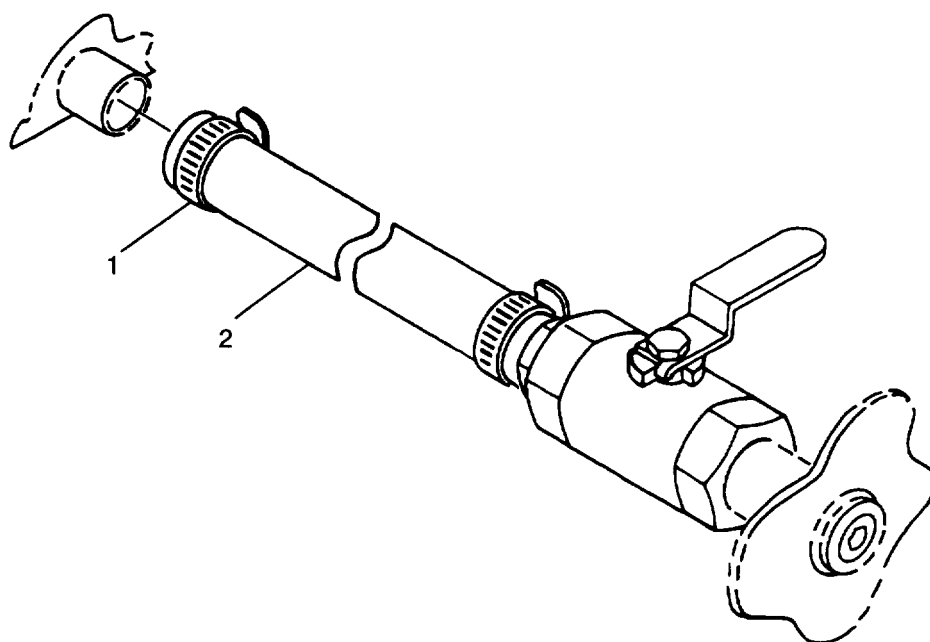
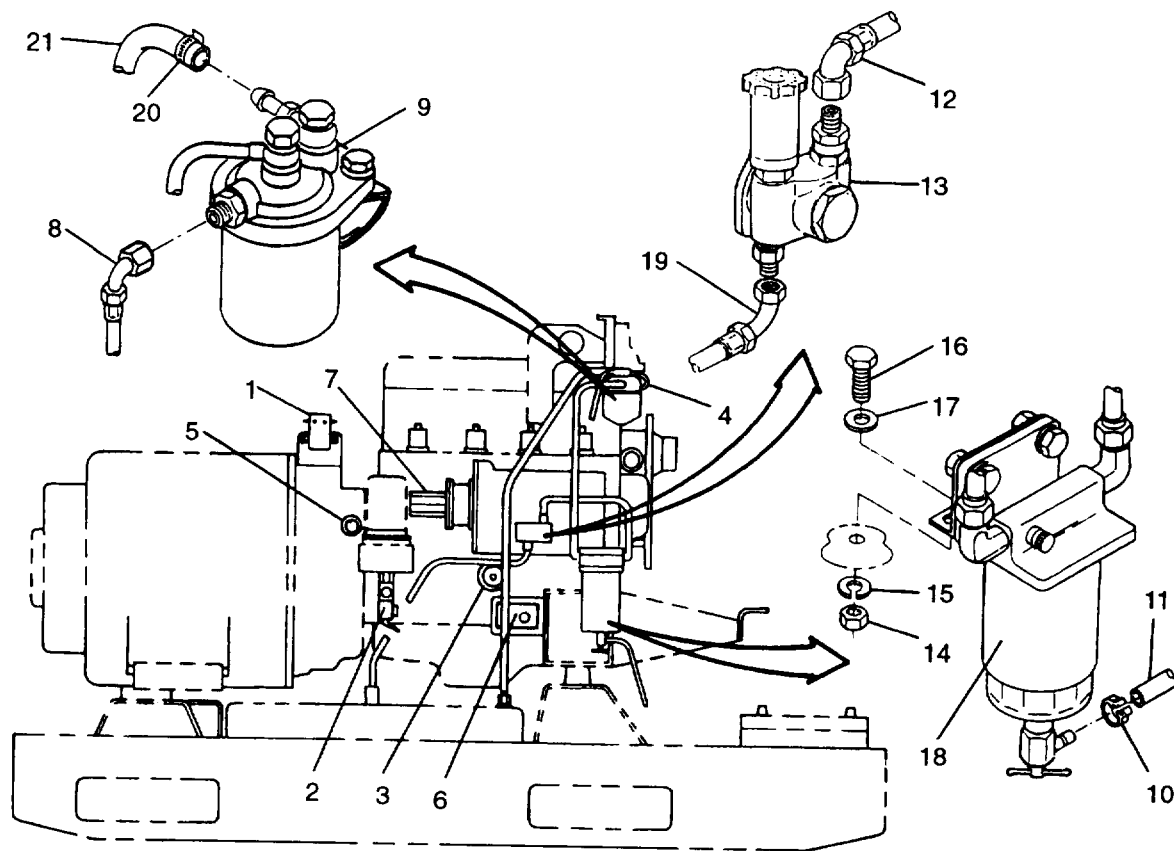
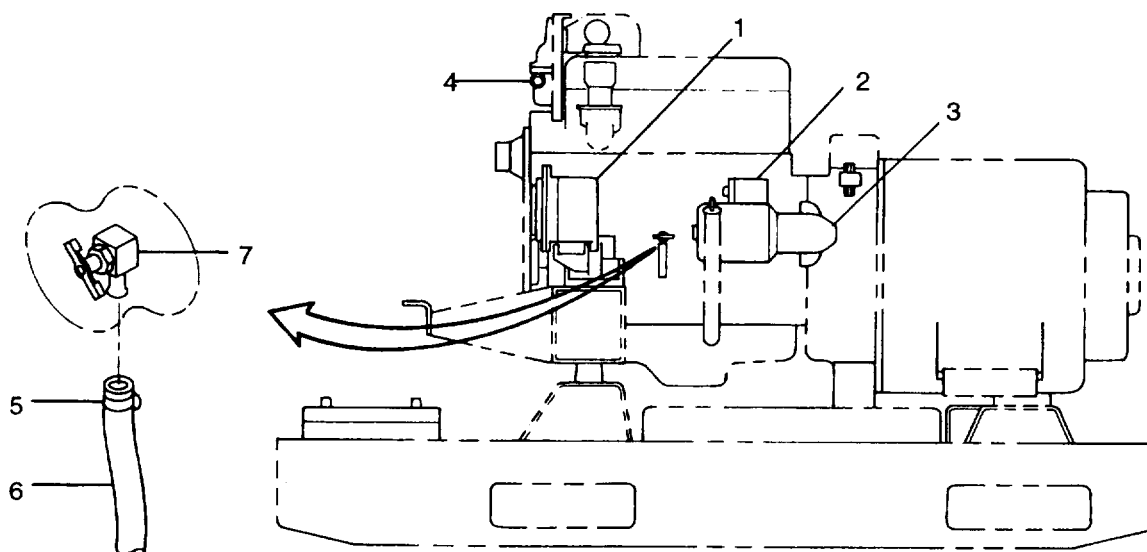
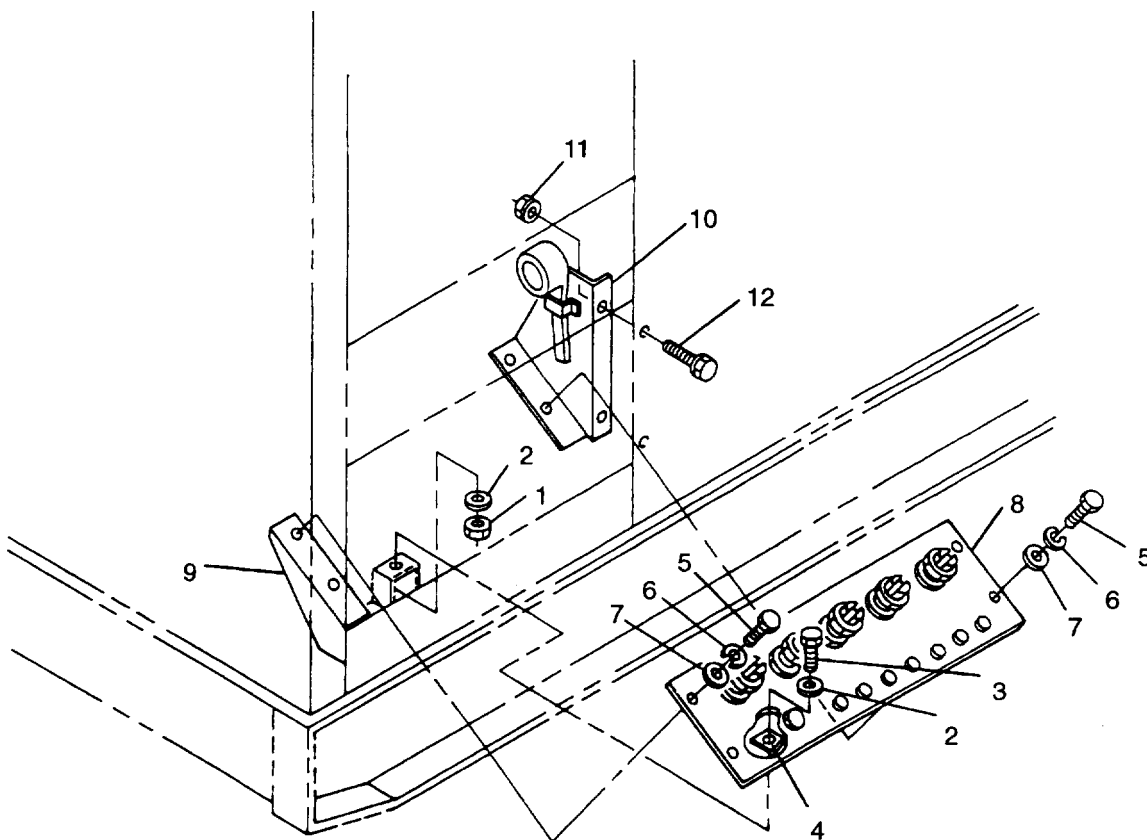

FIGURE 3-12. Oil Drain Line
FIGURE 3-13. Right Side Engine Components
FIGURE 3-14. Left Side Engine Components
FIGURE 3-15. Load Output Terminal Board
- ak. On right side of engine, tag and disconnect electrical leads from glow plug contactor (1, FIGURE 3-13), low oil pressure switch (2), oil pressure sender (3), coolant temperature sender (4), magnetic pickup (5), DEAD CRANK switch (6), and fuel injection pump governor actuator (7).
- al. Disconnect fuel line (8) from engine fuel filter (9). Cap openings.
- am. Remove clamp (10) and disconnect hose (11) from fuel filter/water separator assembly (18). Cap openings.
- an. Disconnect fuel line (12) from fuel transfer pump (13). Cap openings.
- ao. Remove nuts (14), lockwashers (15), bolts (16), washers (17), and fuel filter/water separator assembly (18) from engine.
- ap. Disconnect fuel line (19) from fuel transfer pump (13). Cap openings.
- aq. Loosen clamp (20) and remove fuel return line (21) from engine fuel filter (9). Cap openings.
- ar. On left side of engine, tag and disconnect electrical leads from battery charging alternator (1, FIGURE 3-14), starter solenoid (2), starter motor (3), and coolant high temperature switch (4). Move engine electrical harness to rear of generator set and clear of engine.
- as. Loosen clamp (5) and disconnect coolant drain hose (6) from engine block coolant drain valve (7).
- at. Remove nut (1, FIGURE 3-15), lockwashers (2), and bolt (3) securing ground strap (4) to skid base.
- h. Install bolts (42) and lockwashers (43), tightening bolts (42) slowly to ensure even and proper seating of generator housing lip to flywheel housing. Torque bolts (42) to 31 ft-lbs (42 Nm).
- i. Secure engine support bracket (5) to skid base with bolts (4), snubbing washers (3), washers (2), and nuts(1). Torque bolts (4) to 75 ft-lbs (102 Nm).
- j. Align scribe mark on generator drive disc and engine flywheel, and install bolts (40) and lockwashers (41) securing generator drive disc to engine flywheel. Torque bolts (40) to 35 ft-lbs (47 Nm).
- k. Install screen/cover (39) on generator case with screw (38) and washer (37).
- l. Loosen nuts (23) and (27), adjust bolts (25) to obtain 0.5 inch (12.7 mm) minimum clearance with skid base. Torque nuts (23) and (27) to 150 ft-lbs (204 Nm).
- m. Install support (10, FIGURE 3-15) on right side panel with bolts (12) and assembled nuts (11).
- n. Install load output terminal board assembly (8) on supports (9) and (10) with bolts (5), lockwashers (6), and washers (7).
- o. Secure ground strap (4) to skid base with bolt (3), lockwashers (2) and nut (1).
- p. Position engine electrical harness and connect electrical leads to battery charging alternator (1, FIGURE 3-14), starter solenoid (2), starter motor (3), and coolant high temperature switch (4) on left side of engine. Remove tags.
- q. Connect coolant drain hose (6) at engine block drain valve (7) and tighten clamp (5).
- r. Remove caps and connect fuel line (19, FIGURE 3-13) to fuel transfer pump (13).
- s. Remove caps, connect fuel return line (21) and tighten clamp (20) at engine fuel filter (9).
- t. Install fuel filter/water separator assembly (18) on engine with bolts (16), washers (17), lockwashers (15), and nuts (14).
- u. Remove caps and connect fuel line (12) to fuel transfer pump (13).
- v. Remove caps, connect hose (11) and install clamp (10) at fuel filter/water separator assembly (18).
- w. Remove caps and connect fuel line (8) to engine fuel filter (9).
- x. Connect electrical leads to fuel injection pump governor actuator (7), DEAD CRANK switch (6), magnetic pickup (5), coolant temperature sender (4), oil pressure sender (3), low oil pressure switch (2), and glow plug contactor (1). Remove tags.
- y. Connect oil drain hose (2, FIGURE 3-12) to engine oil pan and tighten clamp (1).